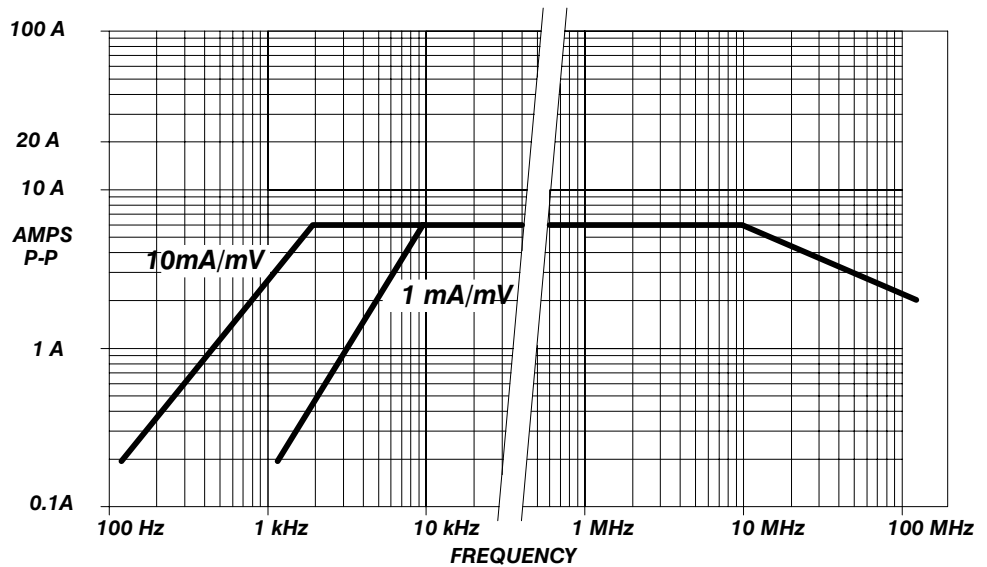

Figure 3: Probe and Termination Input Current vs. Frequency Derating
Maximum continuous (CW) current	Refer to Figure 3 for frequency derating curves
Refer to Figure 3 for frequency derating curves